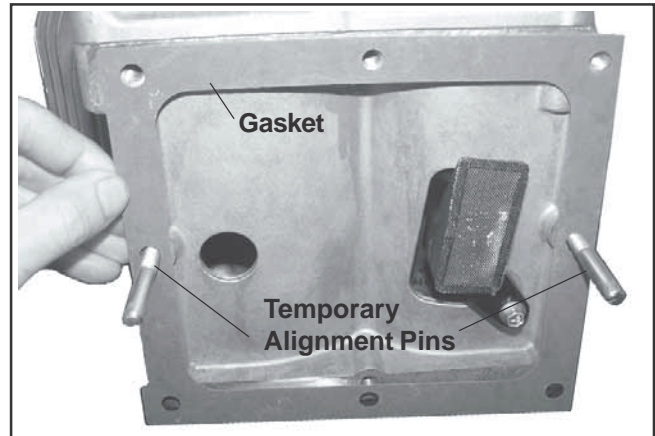

Figure 10-34. Installing Oil Reservoir Gasket.
1. Use two bolts with the heads removed, or a similar item as temporary alignment pins and install into the two center holes on the ends as shown in Figure 10-34.